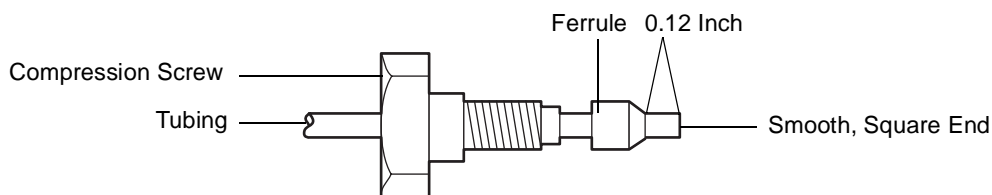

Figure 2-4 Standard Ferrule and Compression Screw Assembly
2. Slide a compression screw onto one end of the tubing, then slide a ferrule onto the tubing with the large end of the taper toward the screw, as shown in Figure 2-4.
5. Unscrew the assembled fitting and verify that the length of tubing extending beyond the ferrule is 0.12 inch (3 mm). See Figure 2-4.